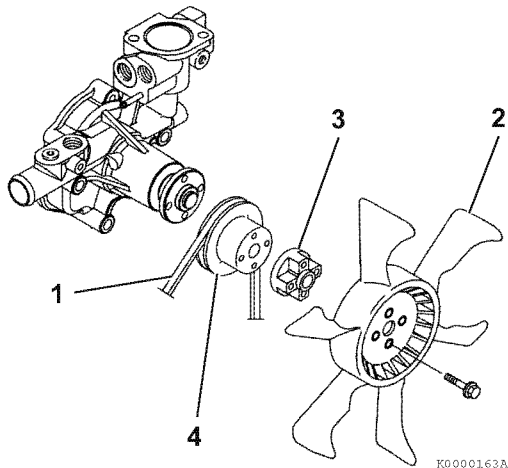

Figure 7-6
2. Remove the engine coolant fan guard (if equipped), engine coolant fan (**Figure 7-6, (2)**), spacer (**Figure 7-6, (3)**) if equipped, V-pulley (**Figure 7-6, (4)**) and cooling fan V-belt (**Figure 7-6, (1)**).